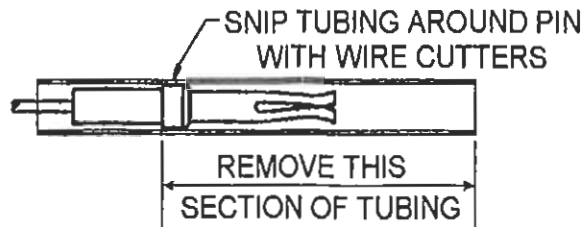

FIGURE 2
1. Unthread heater assembly from handle; pull assembly out of handle. Unplug five (5) terminals from cord pins.
3. Hold sensor spring with needle nose pliers and pull sensor off heater. Plastic tubing (if present on part to be reused) must be removed from terminals. (**See Figure 2**).